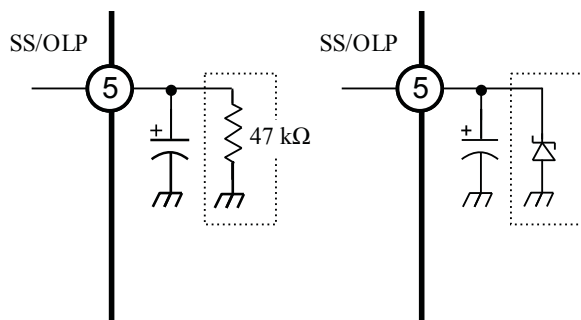

Figure 12. OLP deactivation circuit alternative configurations
**Deactivating the OLP circuit** To deactivate the OLP circuit while soft-start is active, connect either a 47 k $\Omega$  resistor or a Zener diode to the SS/OLP pin (figure 12). By doing this, OLP operation is deactivated at start-up or during an overload status.